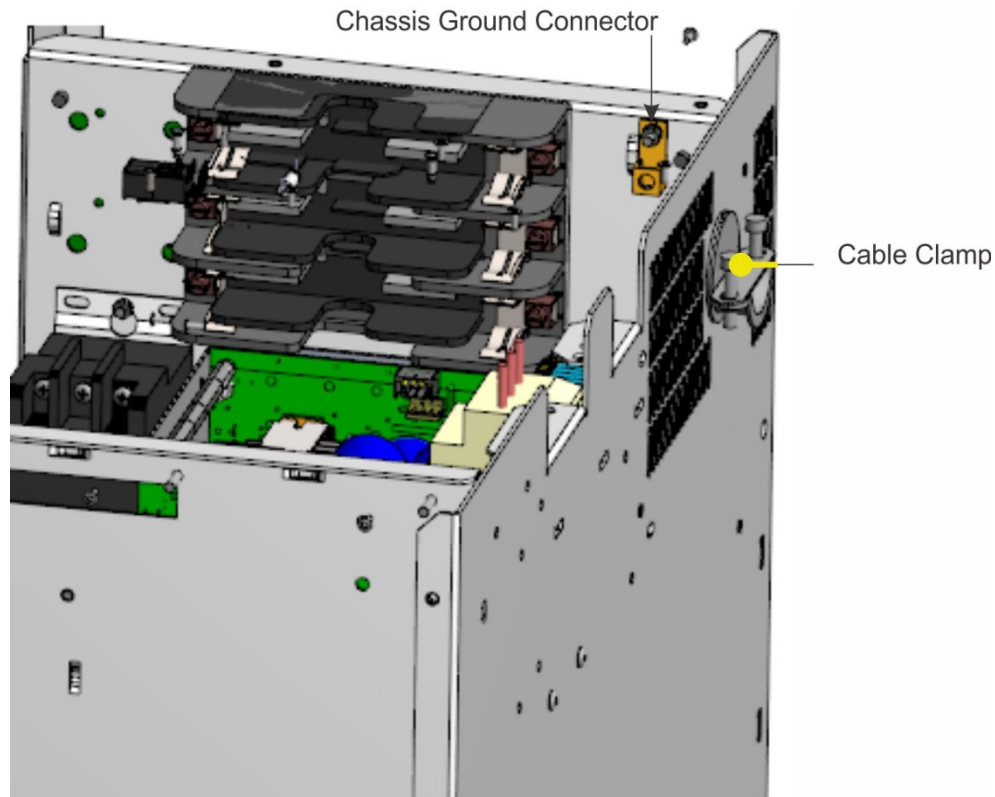

Figure 2-11B: The locations of the cable clamp and the chassis ground connector
5. Pass the AC mains cable through the cable clamp (see Figure 2-11B) at the upper rear of the generator cabinet, adjacent to the main fuses. Tighten the clamps to secure the cable.
- For 3-phase generators: Connect the ground wire of the mains power cable to the chassis ground connector (see Figure 2-11B), and connect the other wires to the terminals on the main fuse holder shown in Figure 2-11 C.